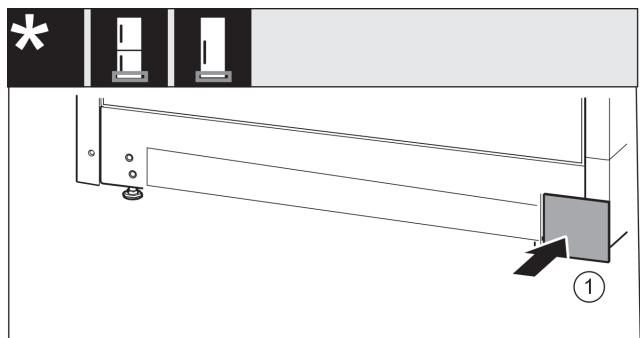

Fig. 18
- ▶ Put back the cover on the other side. *Fig. 18 (1)*